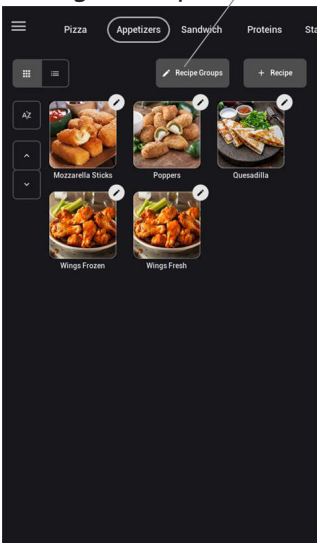

Figure 20: Edit Screen
- 1. Touch the Recipes Groups edit button (1) in the top-right corner of the screen (Figure 20, above).